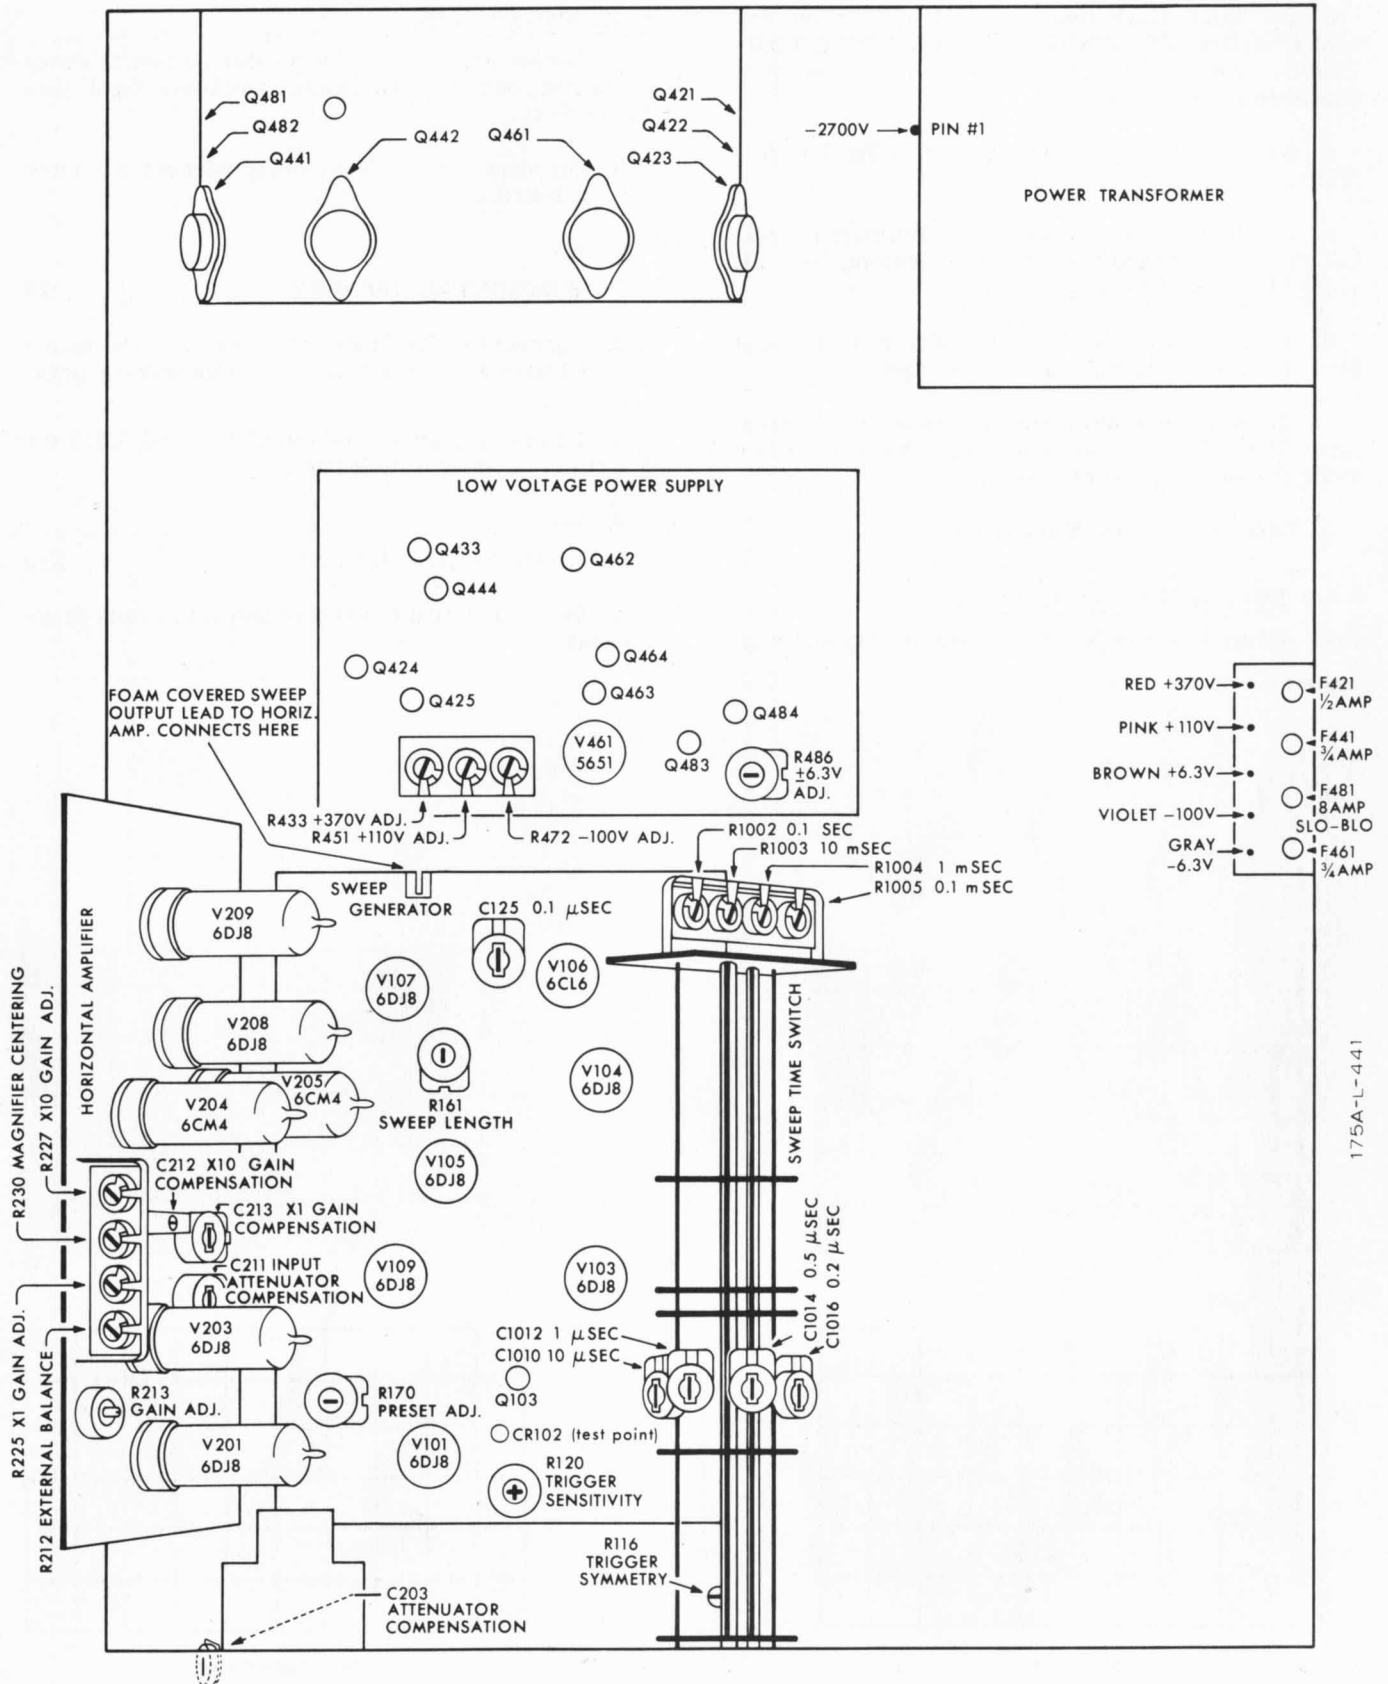

Figure 5-3. Adjustment and Component Locations, Bottom View
5-34. Refer to figure 5-3 for location of adjustments.
b. Measure output of each supply connecting the DC Voltmeter to the terminals on the printed circuit board mounted adjacent and at right angles to the supply fuses (see figure 5-3).
c. Set Voltmeter range to 30 volts and measure the voltage at pin 1 of the low-voltage power transformer T401 (see figure 5-3).
5-41. Refer to figure 5-3 for location of adjustments.
a. Locate foam-covered wire which connects sweep generator output to horizontal amplifier input (see figure 5-3).
5-48. Refer to figure 5-3 for location of adjustments.